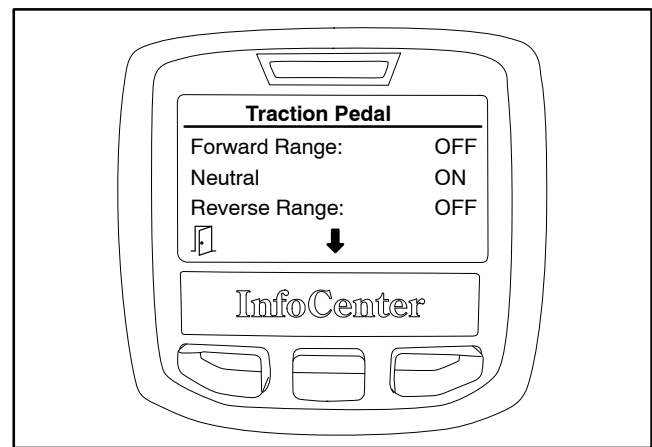

Figure 21
6. After any adjustment of the spring shaft and rod end bearing, use the InfoCenter Display Diagnostics menu to obtain and select the Traction Pedal menu item (see InfoCenter Display in this chapter). Choose Outputs and the InfoCenter display will identify the traction pedal position (Fig. 21).